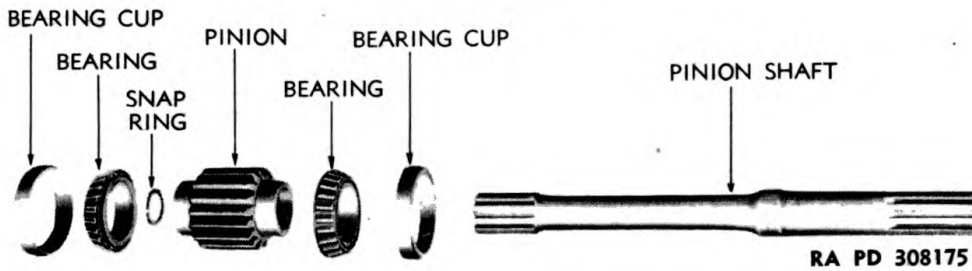

Figure 73 — Final Drive Pinion Shaft and Bearings Disassembled
(2) **REMOVE OIL SEAL ASSEMBLY.** Lift seal plate and follower assembly with one seal ring and seal guard from shaft (fig. 73), then drive dowels through flange on end of shaft from outer side, far enough to loosen second seal ring and remove seal ring. If necessary to replace any of the sprocket hub bolts, remove snap ring (fig. 74) and drive bolts out of flange.